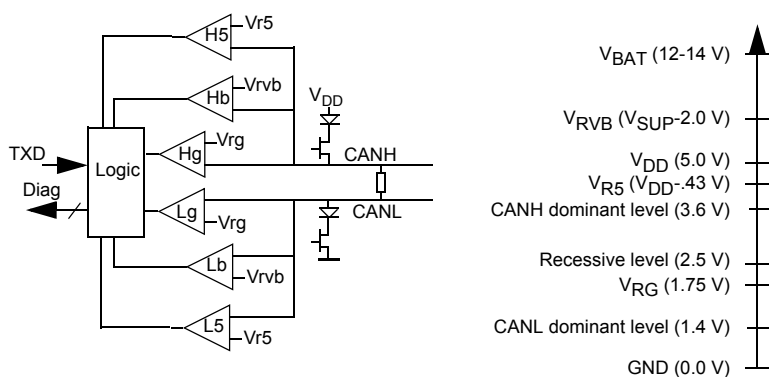

### Figure 33. Bus Termination Options
- Figure 33 illustrates some of the most common terminations.